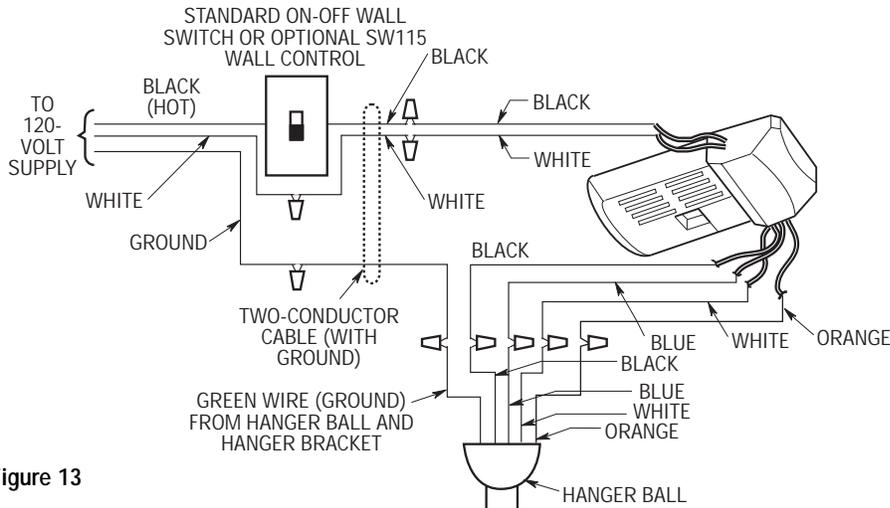

Figure 13
- 5. Lift the ceiling cover up to the threaded studs and turn until the studs protrude through the holes in the ceiling cover (Figure 13).